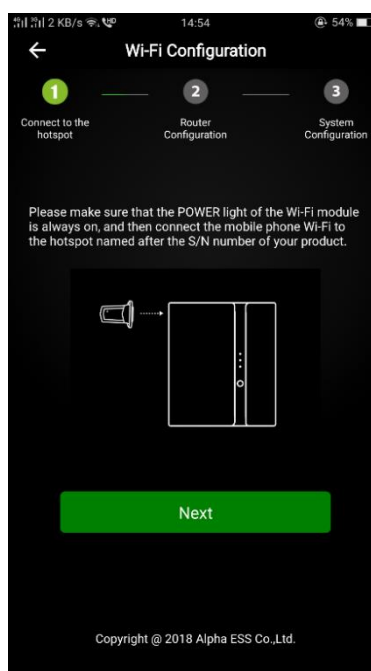

Figure 4.3 Hardware Connection
Step 2: after logging into the APP, automatically identify the WiFi module, check whether it is connected, and search WiFi, as shown in Figure 4.3.